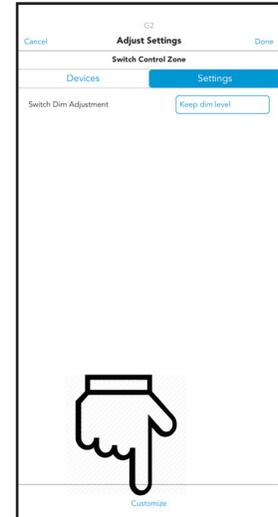

Figure 29: Choose Customize
1. To customize a behavior zone, navigate to the behavior zone and select the **Settings** tab. Then select the **Customize** button located at the bottom of the page (Figure 29).